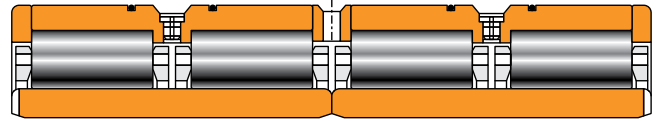

Fig. 86. RX bearing with integrated oil-mist reclassifiers and O-rings.
1. Oil-mist nozzle integration: The outer rings may be supplied with O-rings and oil-mist reclassifiers (fig. 86) for older mills using oil-mist lubrication. This eliminates the need for integrating the reclassifiers into the chock bore. The number of nozzles and holes per nozzle are dependent on the size of the bearing and required air/oil flow to the bearing assembly.